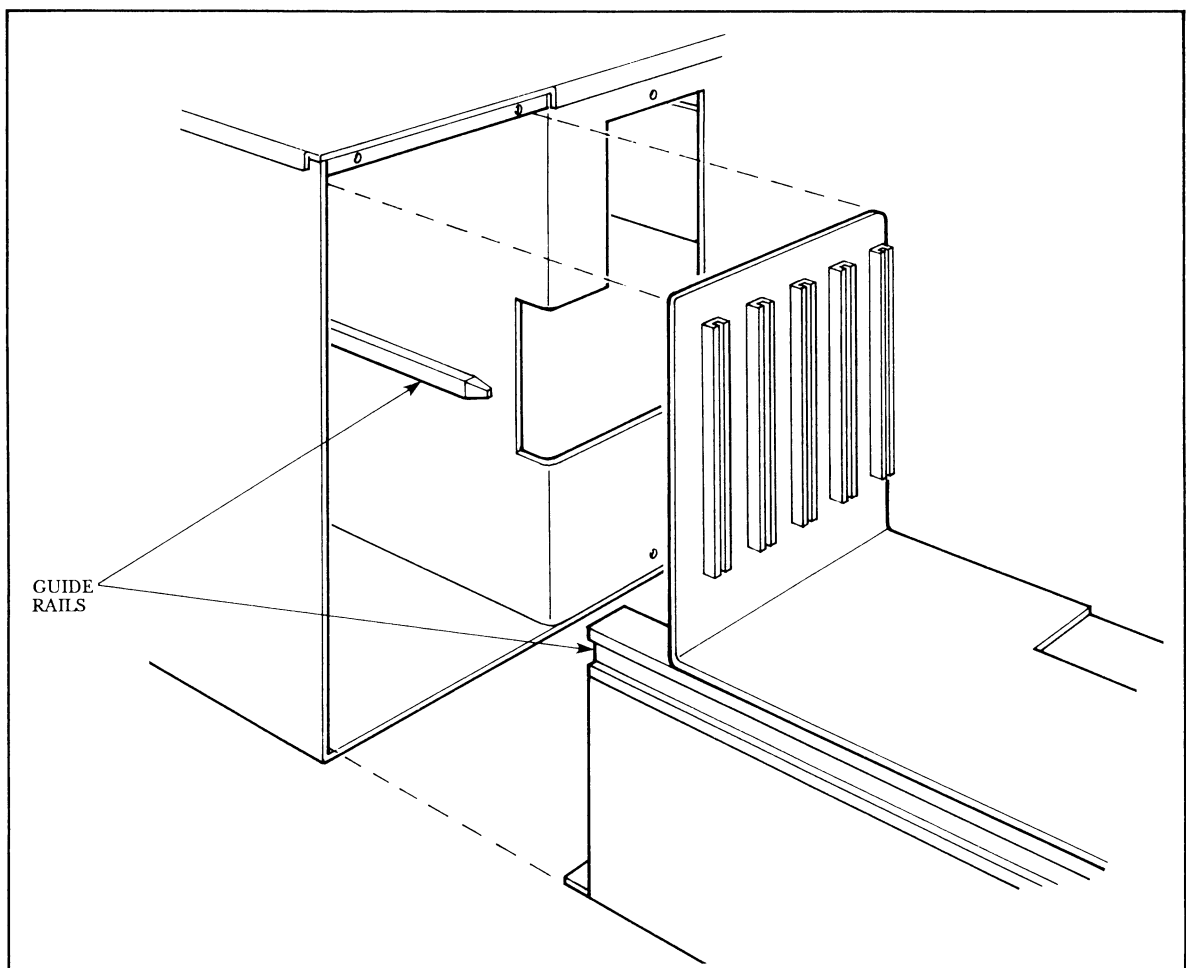

Figure 3-8. Installing the Equipment Drawer
1. Match the guide rails on the drawer with those on the inside of the system shell, as illustrated in Figure 3-8.